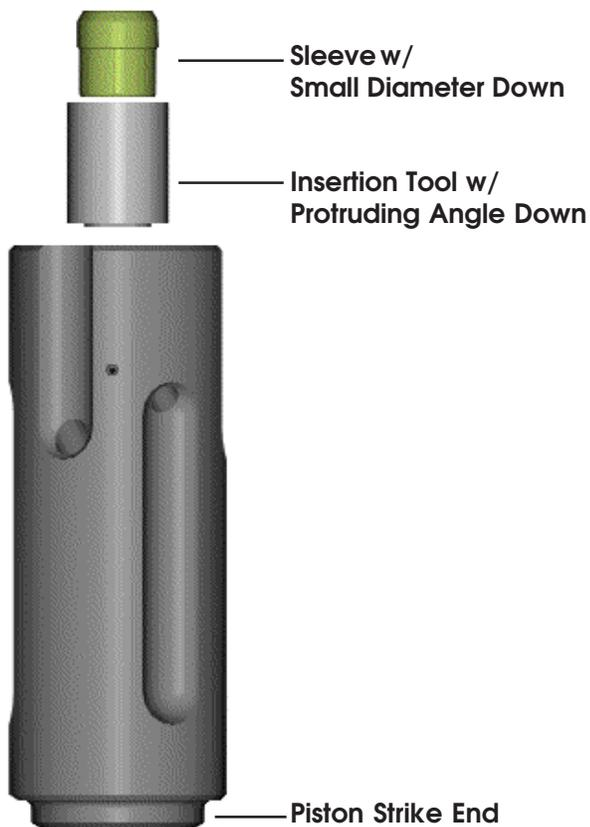

Figure 2-7A
- Stand the piston vertical, strike end down, on a clean work area. Putting oil in the piston under cut, end bore, insertion tool and on the sleeve will make inserting the sleeve much easier. Place the sleeve insertion tool over the hole of the piston. The insertion tool has a protruding angle, use the angle to centralize the insertion tool on the piston. The sleeve has two diameters, place the smaller diameter down or into the insertion tool first. Refer to figure 2-7A and 2-7B.